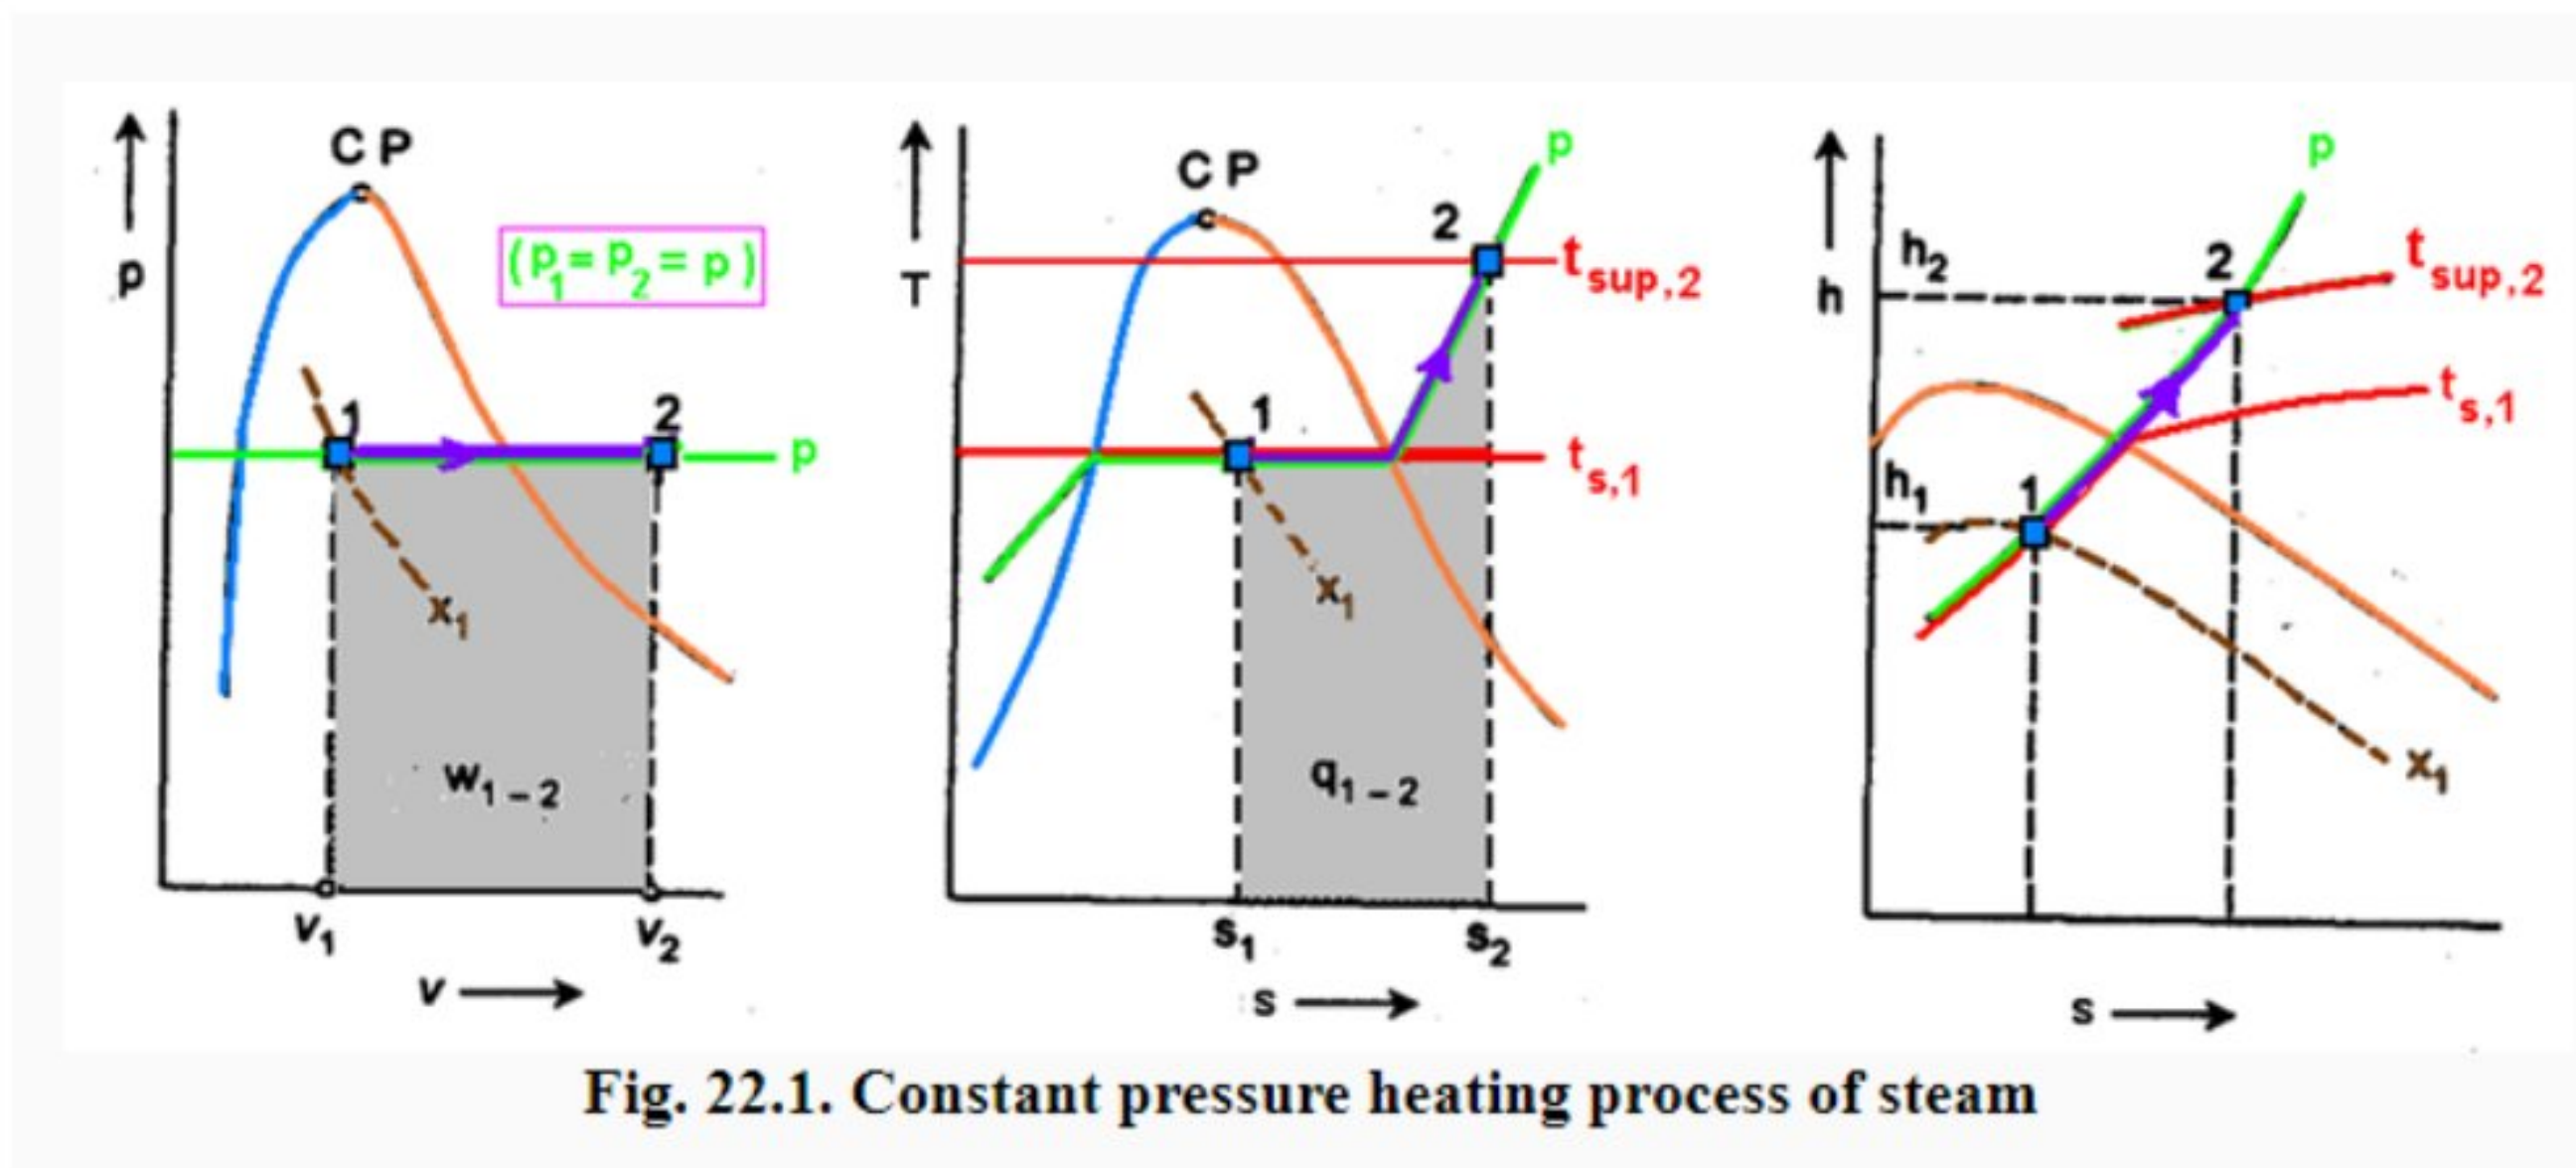

Fig. 22.1. Constant pressure heating process of steam
- (a) **p-v, T-s, and h-s Representation.** Assume that steam undergoes a constant pressure heating process from its initial state to final state. Let the initial condition of steam be in the wet region as point 1 at pressure  $p_1$  having dryness fraction  $x_1$  and the final condition in the superheat region as point 2 at pressure  $p_2 (= p_1)$  and super heating temperature  $t_{\text{sup},2}$  as shown in Fig. 22.1 on p-v, T-s and h-s diagrams.